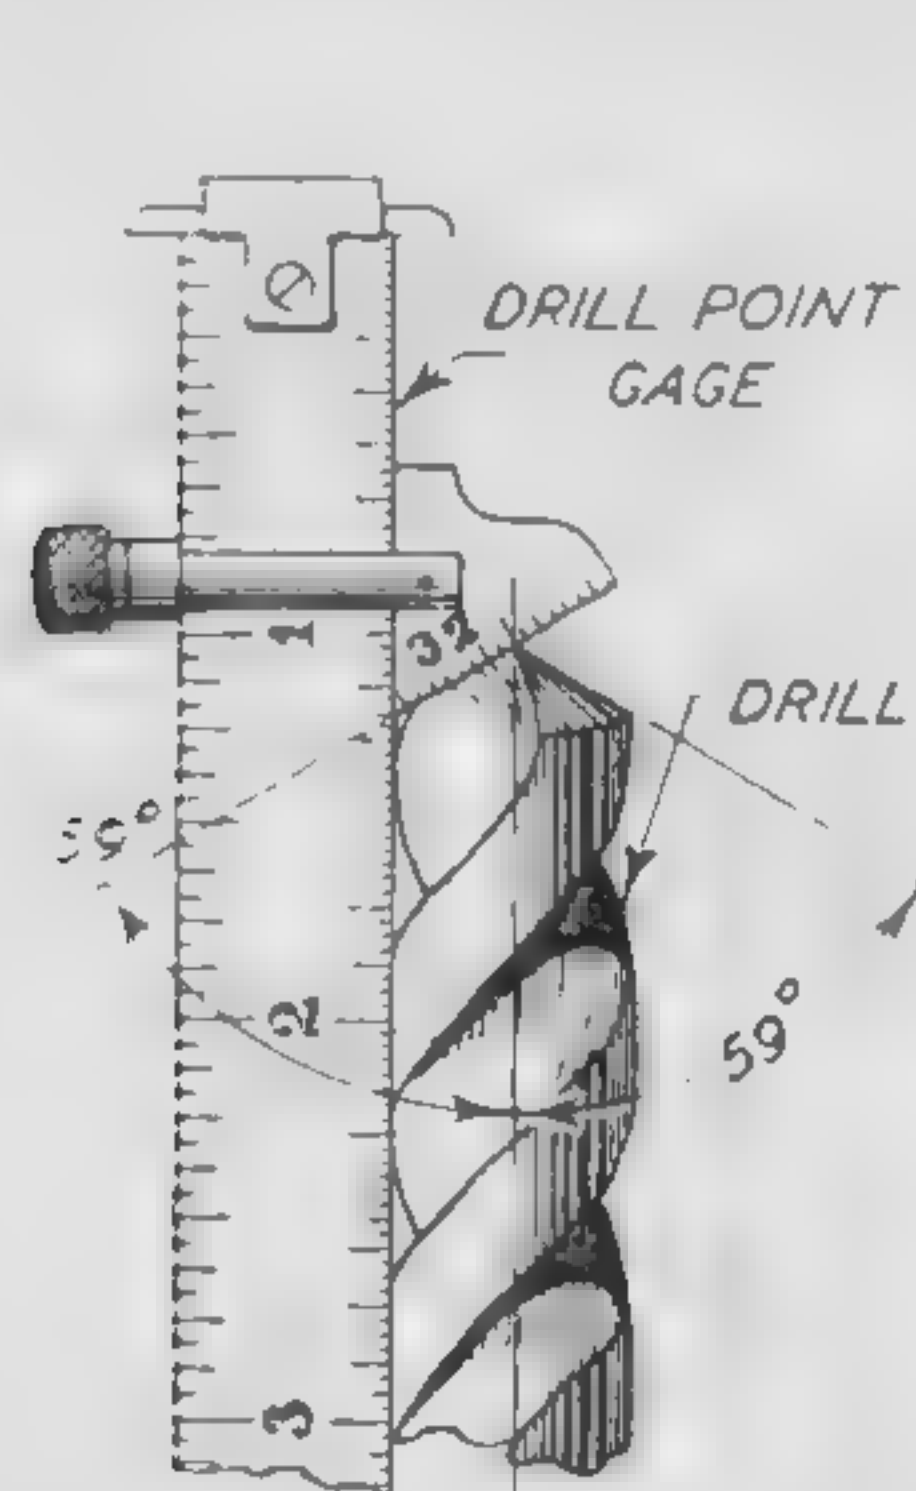

Fig. 22. Using Drill Point Gage
1. Centralize the point, since a point ground off center will cause an oversize hole. The point should be carefully checked with a drill point gage, Fig. 22.